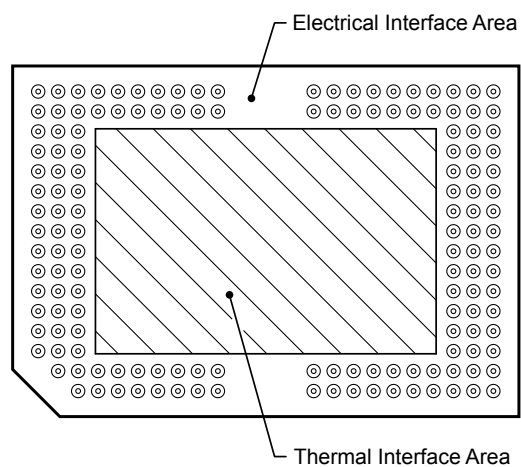

図 5-7. System Mounting Interface Loads
(1) Uniformly distributed within the area shown in 図 5-7